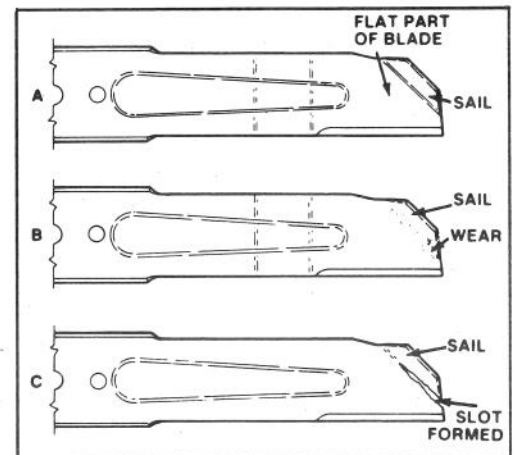

Figure 19
4. **INSPECTING BLADE** — Carefully examine blade for sharpness and wear, especially where flat and curved parts meet (Fig. 19).